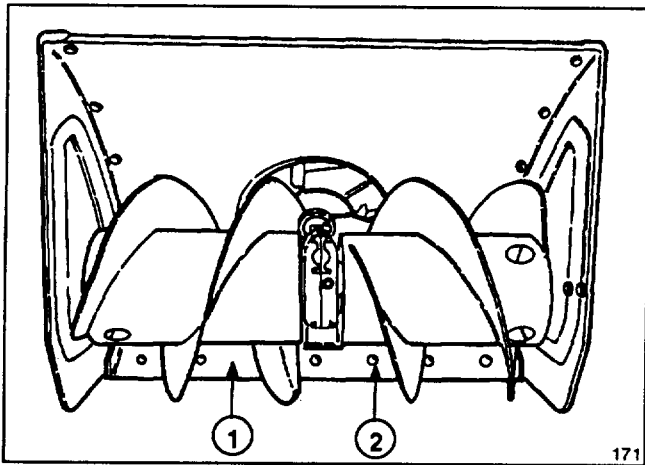

Figure 18
3. Next, loosen the (6) carriage bolts securing the scraper to the auger housing (Fig. 18).
5. When the scraper is adjusted correctly, tighten the (6) carriage bolts securely.
6. Readjust the skids so there is 1/8" between the bottom of the skids and a level surface. Tighten the (4) flange bolts securely.